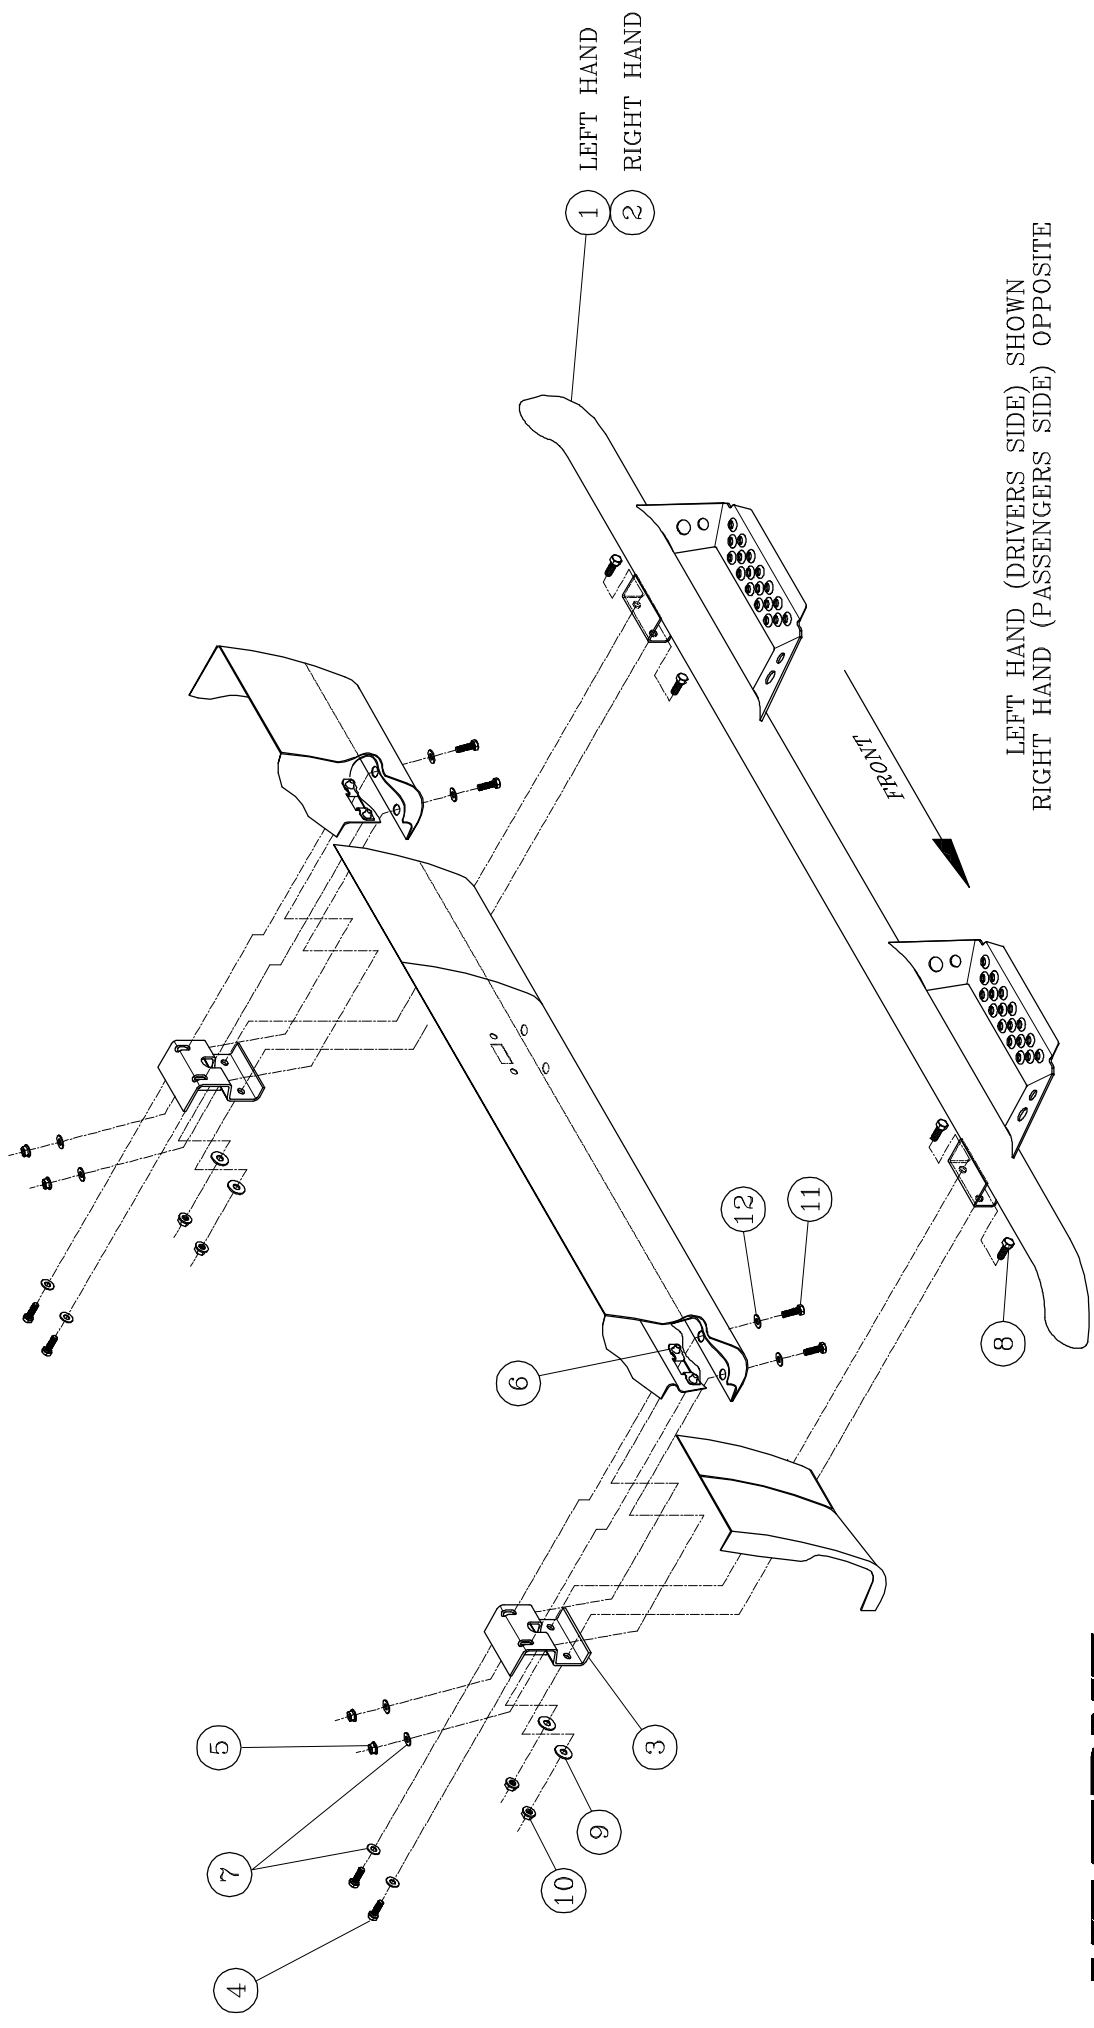

FIG. 1
- 2.1. LAY NERF BAR ASSEMBLIES (ITEM #1, & 2) ON FLAT SURFACE, AND ATTACH THE MOUNTING BRACKETS (ITEMS #3) TO EACH NERF BAR IN THE LOCATIONS AS SHOWN IN (FIG. 1), USING THE SUPPLIED 3/8-16 X 1 SCREW, 3/8" FLAT WASHER, & 3/8-16 SERRATED FLANGE NUT, (ITEMS #8, 9, & 10). LEAVE THESE FASTENERS FINGER TIGHT AT THIS TIME.